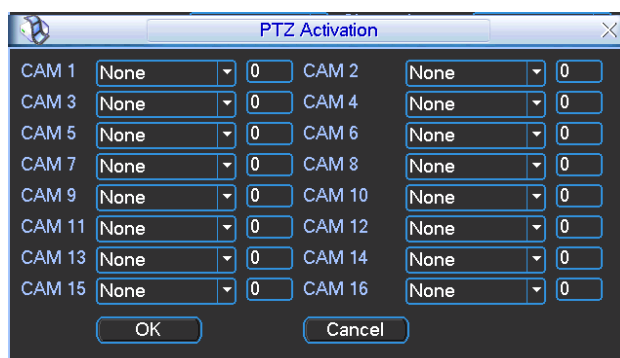

Figure 4-23
- PTZ activation: Here you can set PTZ movement when alarm occurs. Such as go to preset, tour & pattern when there is an alarm. Click "select" button, you can see an interface is shown as in Figure 4-23.